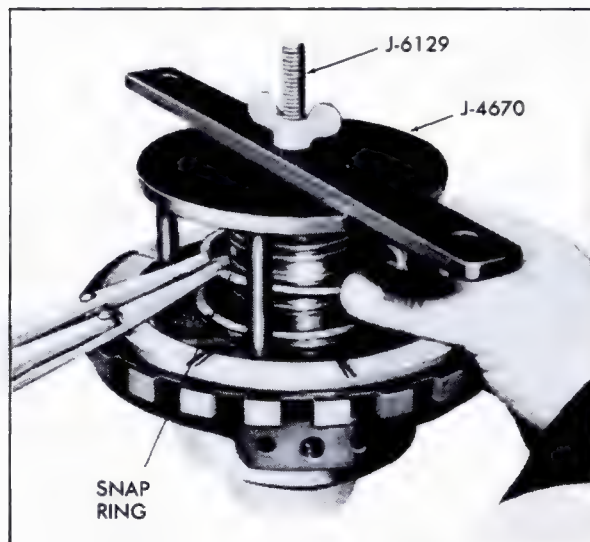

Fig. 7-89 Removing and Installing Intermediate Clutch Piston Snap Ring
2. Using Clutch Spring Compressor, J-4670, and Rear Clutch Spring Compressor, J-6129, Fig. 7-89, compress spring retainer and remove snap ring with Snap Ring Pliers, J-8059 or J-5586.
5. Position snap ring and using Clutch Spring Compressor, J-4670, and Rear Clutch Spring Compressor, J-6129, Fig. 7-89, compress spring retainer, being careful that retainer does not get caught in snap ring groove, and install snap ring with Snap Ring Pliers, J-8059 or J-5586. Remove tools.